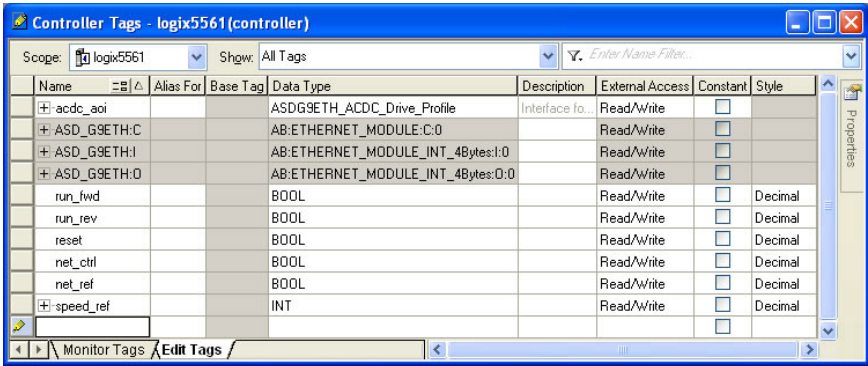

Figure 89: Create AC/DC Drive Profile AOI Tags
- 4) Create the tags in Figure 89.